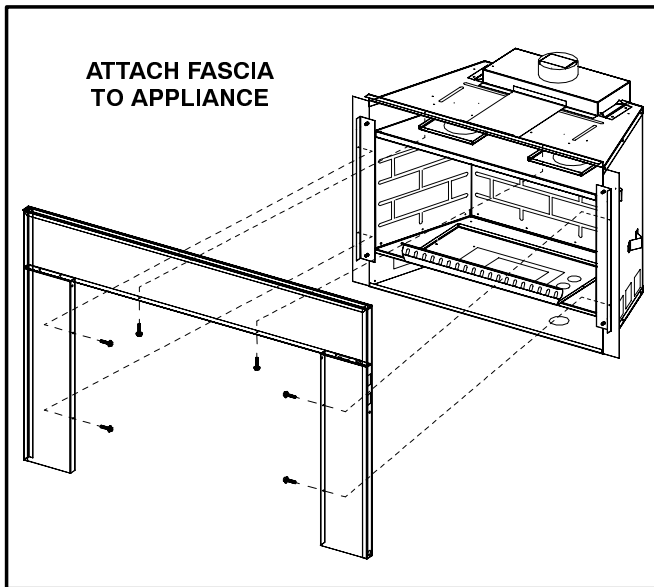

FIGURE 5
- 6 – Secure the assembled fascia to the appliance using the six remaining screws: two screws in the top of the cabinet and two screws on each of the left- and right-side flanges of the firebox wrapper. See figure 5.